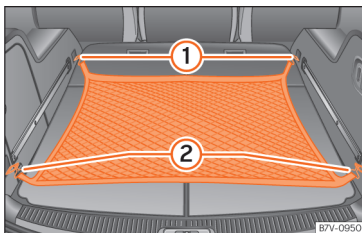

Fig. 149 In the luggage compartment: net for hanging luggage.
- Hook the baggage net into the fastening rings »» Fig. 149 ① and ②.
- Carefully unhook the baggage net hooks from the fastening rings »» Fig. 149 ①.
- Carefully unhook the baggage net hooks from the fastening rings »» Fig. 149 ②.